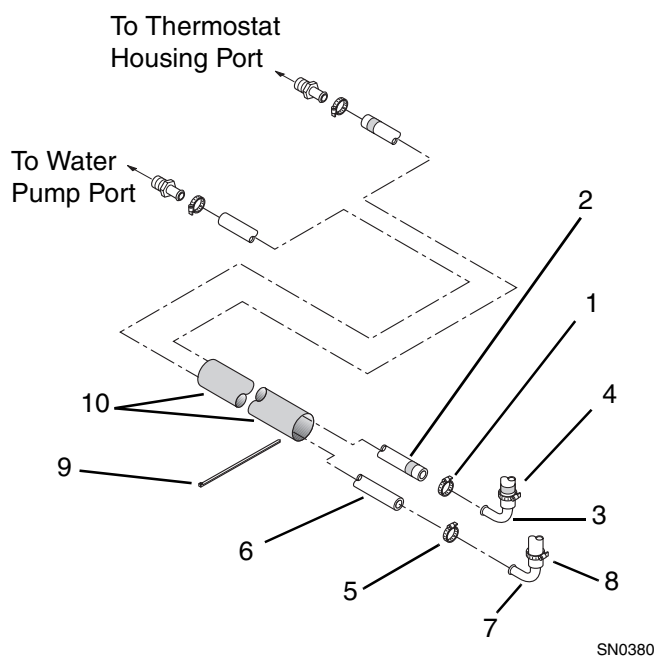

Figure 9-92 Heater Hose Connections
40. Position a hose clamp (Fig. 9-92, 1) over the end of the heater hose (2) with the red tape, and slide the end of the hose onto the 90° hose fitting (3) connected to the heater supply hose (4) also marked with red tape. Tighten the hose clamp (1).
41. Position a hose clamp (Fig. 9-92, 5) over the end of the heater hose (6) without the red tape, and slide the end of the hose onto the 90° hose fitting (7) connected to the heater supply hose (8) NOT marked with red tape. Tighten the hose clamp (5).
42. Use plastic ties (Fig. 9-92, 9) where necessary, to secure the nylon sleeve (10) in place and to prevent hoses from making contact with hot or moving engine parts.